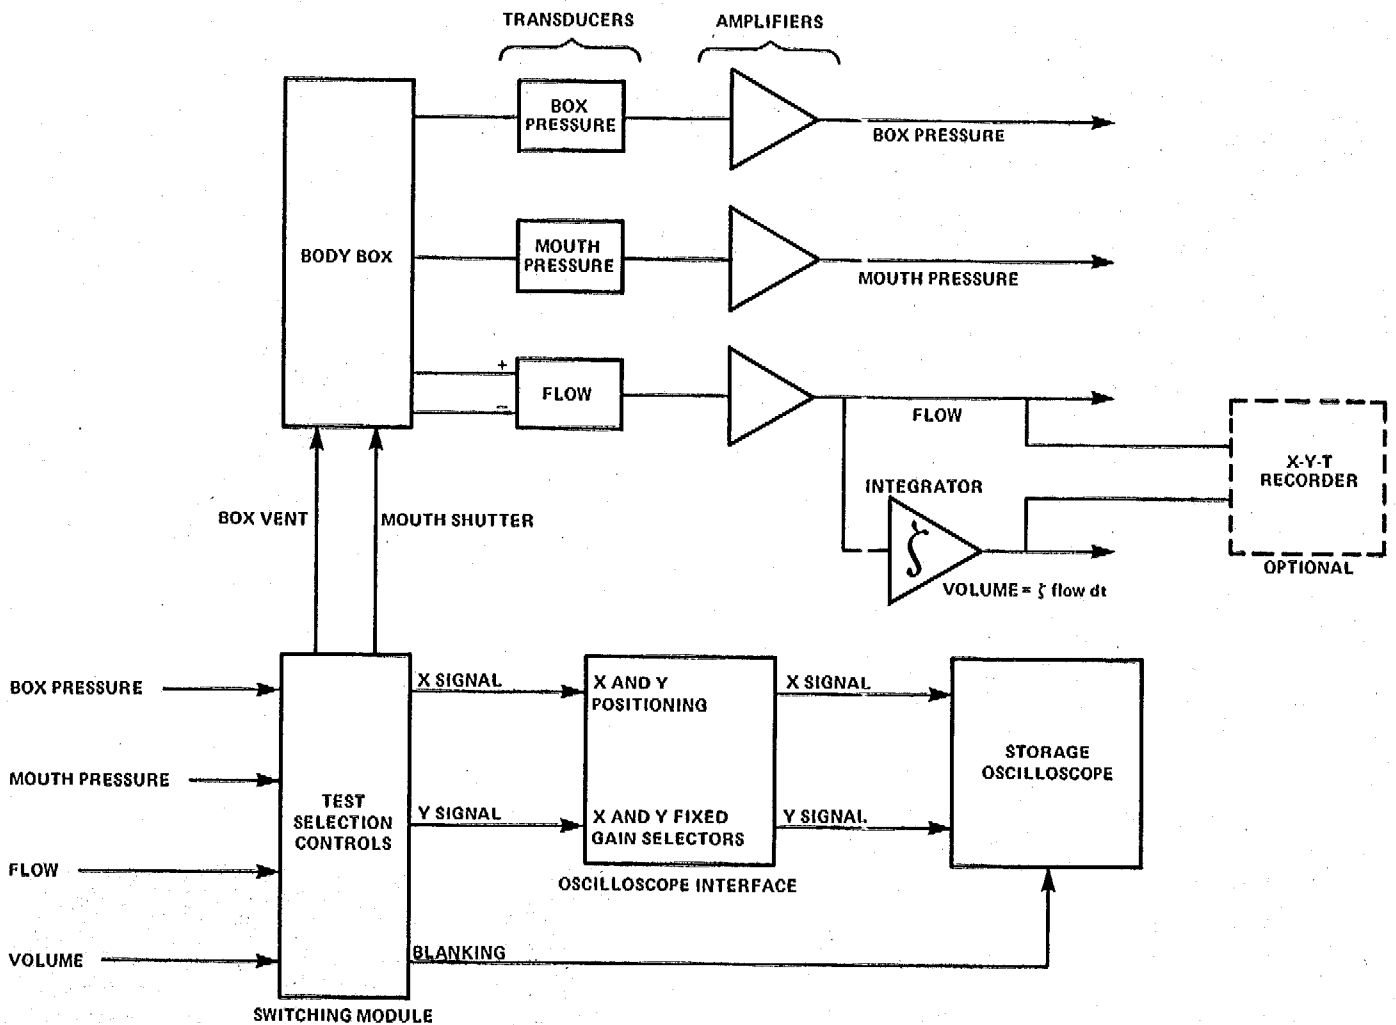

Figure 3 - Block Diagram of Body Plethysmograph
A.6. Figure 3 is a block diagram which shows the system configuration with the standard and optional equipment.